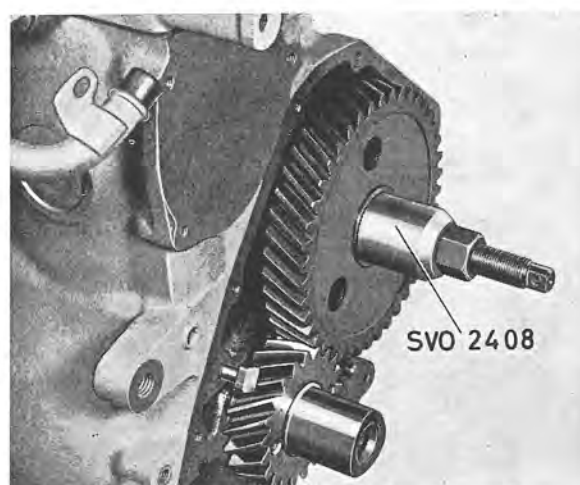
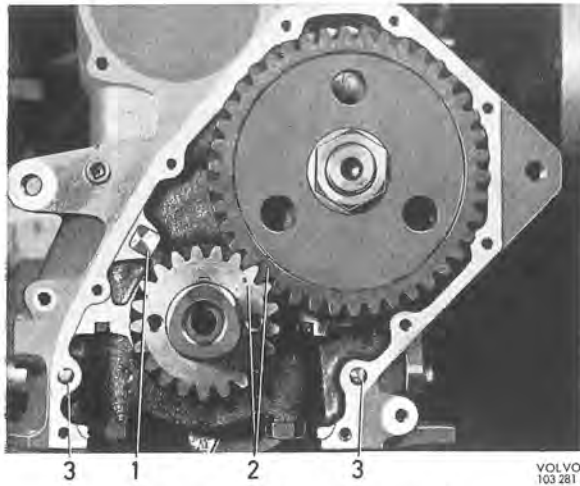

Fig. 2-43. Fitting camshaft gear
Fig. 2-44. Markings on timing gears
Screw out the oil nozzle, blow it clean and re-fit it, see Fig. 2-44. The gears are lubricated from this nozzle.
7. Re-fit the camshaft gear with tool SVO 2408, see Fig. 2-43. Both gear wheels should take up the correct position relative to each other, see Fig. 2-44. When the timing gear drive markings are opposite each other, then the piston for No. 6 cylinder is at top dead center, firing position. Do not press the camshaft backwards so that the sealing washer at the rear end loosens. Fit the nut and tighten it to a torque of 130—150 Nm (94—108 lbft). The measuring values for the tooth flank clearance and the camshaft axle clearance, which is deter-